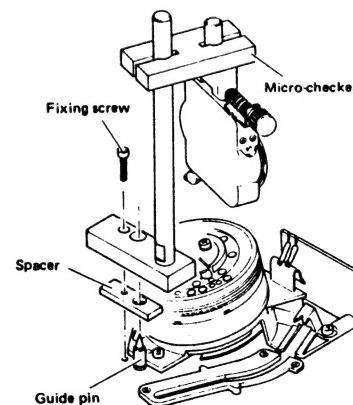

Fig. 2-12 Micro-checker mounting
4. Set the micro-checker (PUJ49712-2) on the guide pin as shown in Fig. 2-12. Use the accessory hex wrench (metric) to tighten the fixing screw.